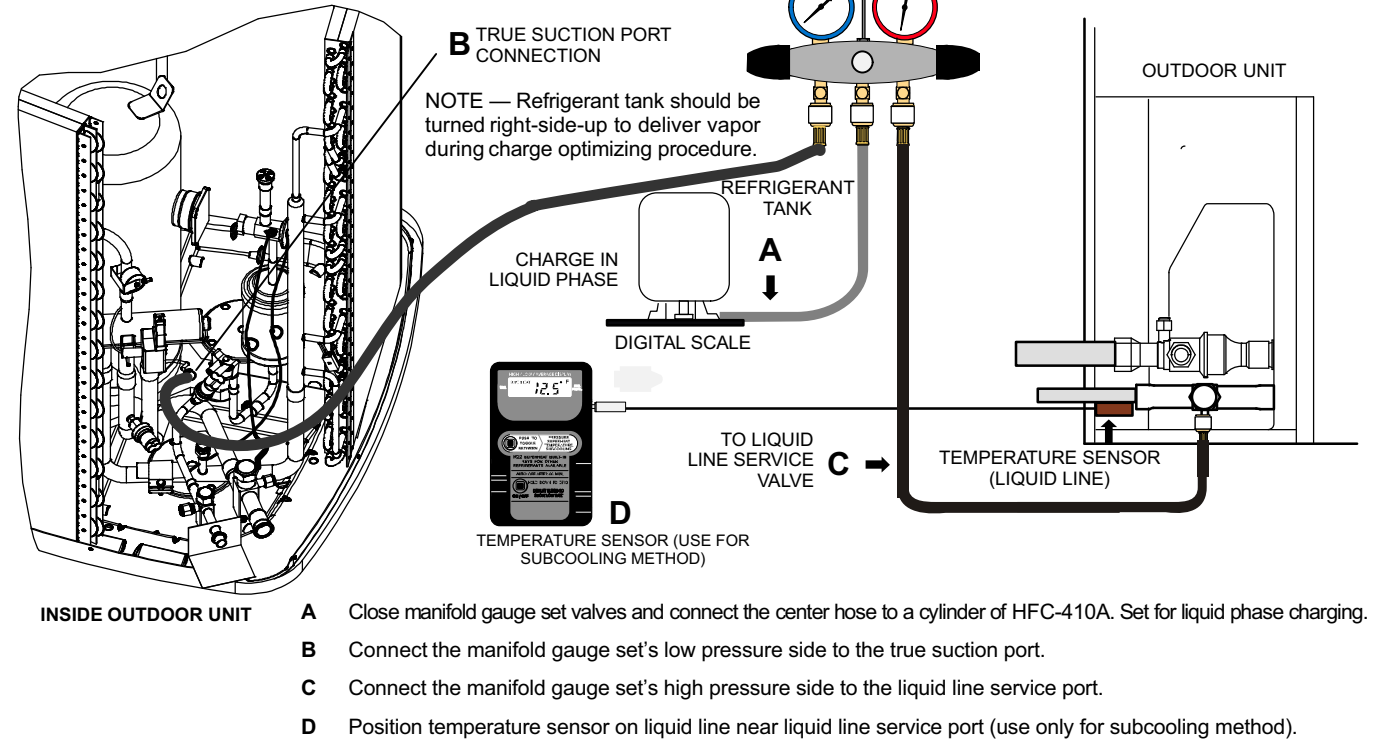

Figure 21. Gauge Set Connections for Adding Refrigerant
3. Verify that the manifold gauge set is connected as illustrated in figure 21. Use a temperature sensor positioned near the liquid line service port as illustrated in figure 21 which will be required later when using the subcooling method for optimizing the system refrigerant charge.
After the evacuation procedure, reconnect the manifold gauge set as illustrated in figure 21.
NOTE - Temperature sensor illustrated in figure 21 is not required for initial system weigh in charging.
1. Move the low-side manifold gauge hose from the vapor line service valve to the true suction port (see figure 21).